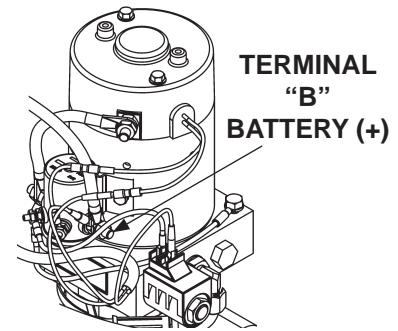

FIG. 51-1
1. Use voltmeter to verify power is being supplied to solenoid terminal "B". Recharge the battery if voltmeter displays less than 12.6 volts (**FIG. 51-1**).